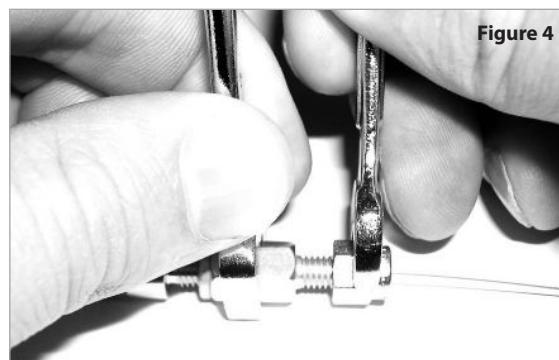

Figure 4
10. Thread the column nut onto the EZ No-Vent connector. **Tighten finger tight; then tighten an additional $\frac{1}{4}$ turn.** Use a wrench to hold the MS fitting in place while tightening the column nut (Figure 4).